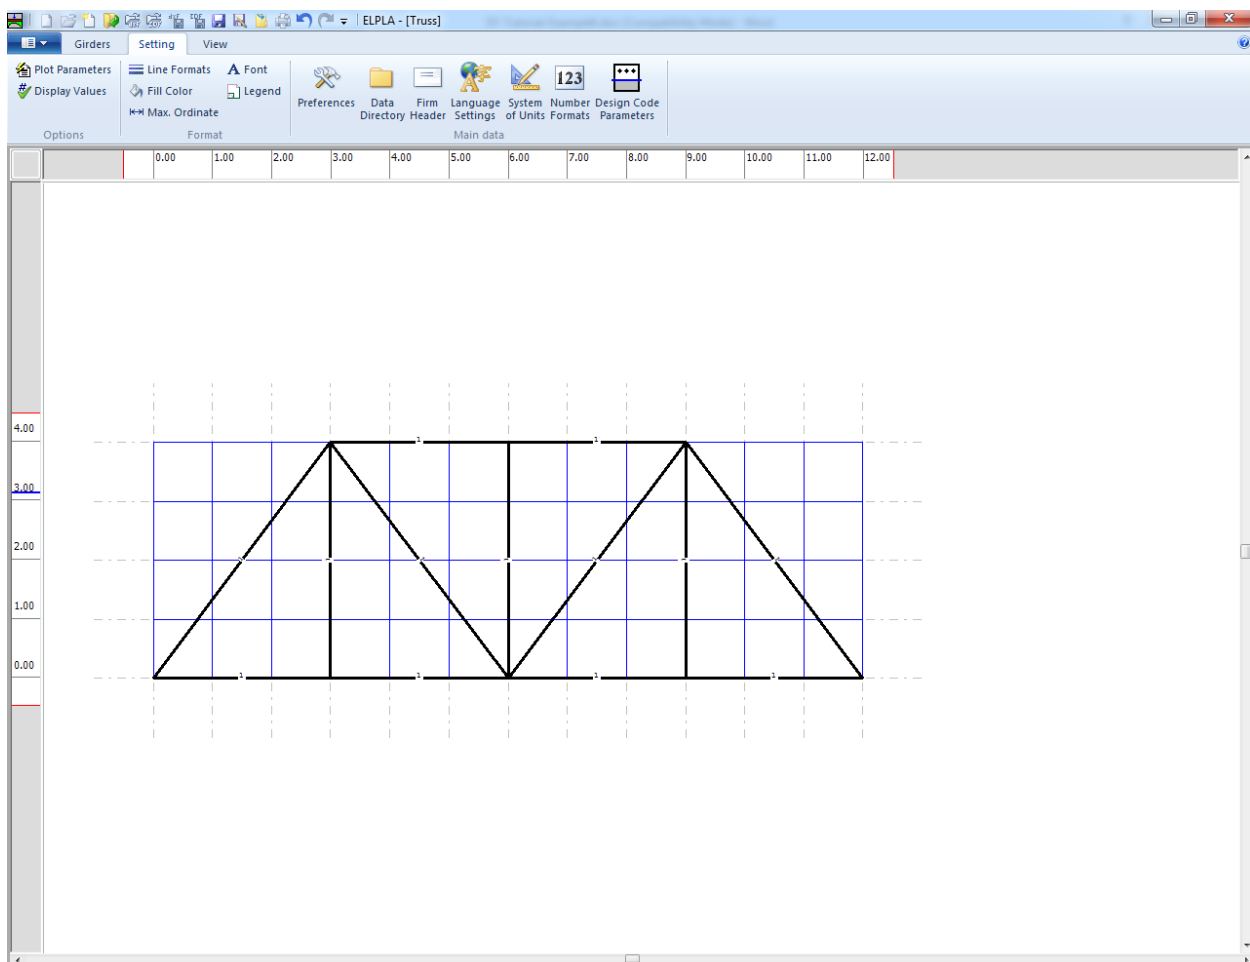
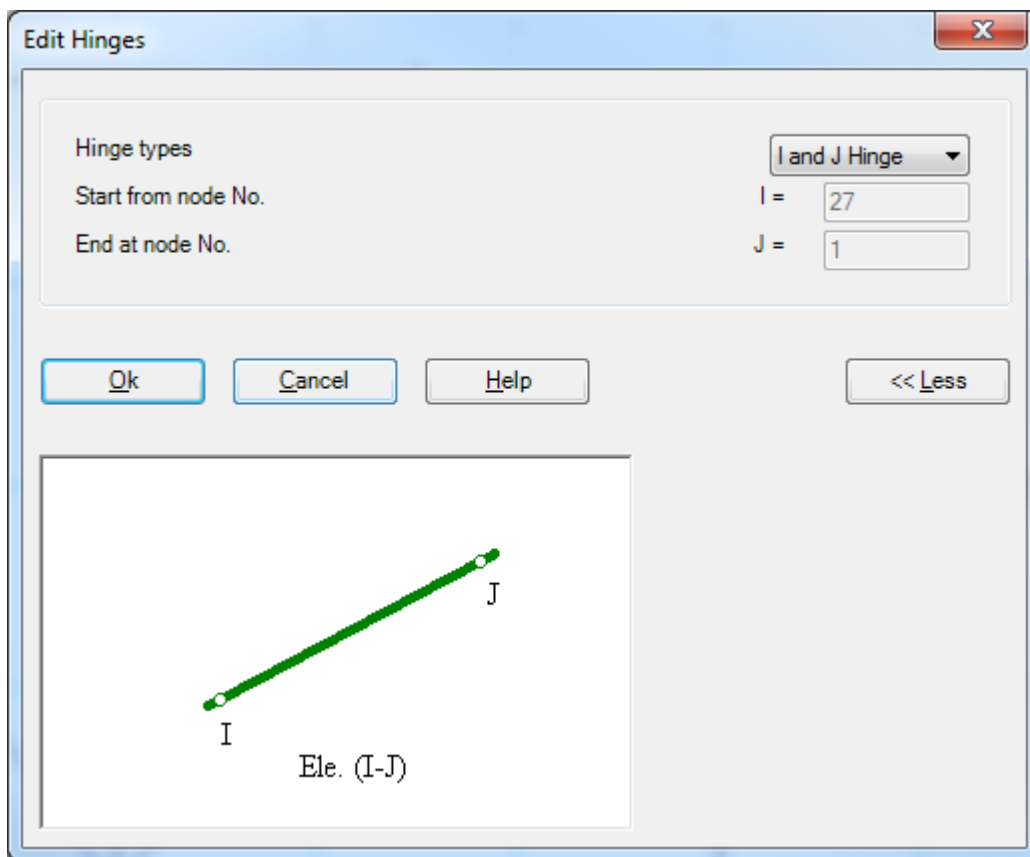

Figure 6.20 Girders are drawn in simple lines
Figure 6.24 "Edit hinges" dialog box
After clicking "OK" in the "Plot Parameters" dialog box, the girders are drawn as simple lines as shown in Figure 6.20.
- Choose "Select Nodes" command from the "Graphically" menu in Figure 6.20. When "Select Nodes" command is chosen, the cursor will change from an arrow to a cross hair
To define the element hinged, choose "Edit Hinge" command from the "Graphically" menu in Figure 6.20. When "Edit Hinge" command is chosen, the cursor will change from an arrow to a cross hair. Double click on the element that has the hinges. "Edit Hinges" dialog box in Figure 6.24 appears.